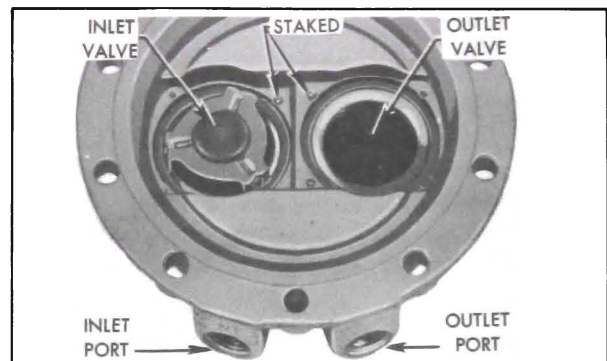

Figure 3-15—Valves in Fuel Cover
3. Place a *new* valve gasket in each valve seat in fuel cover. Place one valve in seat nearest the inlet port with the spring cage side facing up. Place another valve in the outlet valve seat with the spring cage side down. See figure 3-15.